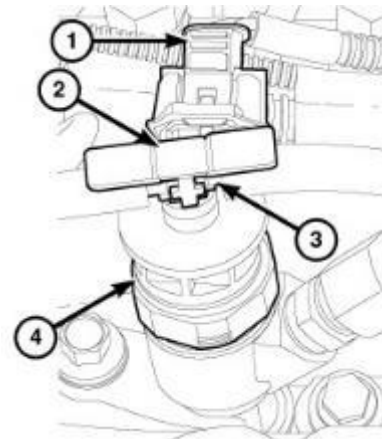

Figure 55 - Fuel Injector Return Line and Locking Tab
36. Disconnect the injector electrical connector (1) (Figure 55).
37. Lift up on the locking retaining tab on the fuel return lines (2) to unlock the lock. Remove the fuel return hose (3) by wiggling hose free at the fuel injector (4) (Figure 55).
60. Install the fuel injector return line (3) and **BE SURE IT IS FULLY SEATED**, then push down on the lock tab (2) to lock in place. (Figure 55).
61. Connect the fuel injector harness connector (1) (Figure 55).